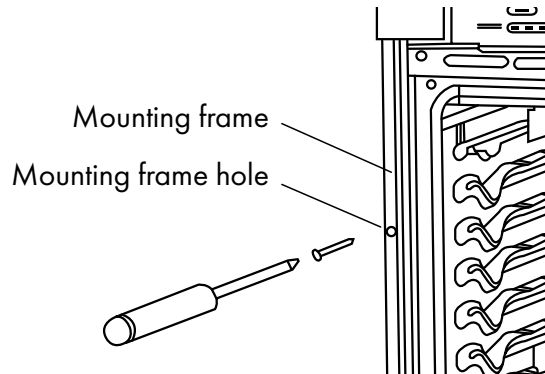

Figure 1
2. By hand, feed the flexible electrical supply conduit from the oven to the junction box (Figure 1).
3. Insert the #8-14 x 1" screws (provided) through the pilot holes to securely fasten the oven to the cabinet (Figure 1). Do not overtighten screws.